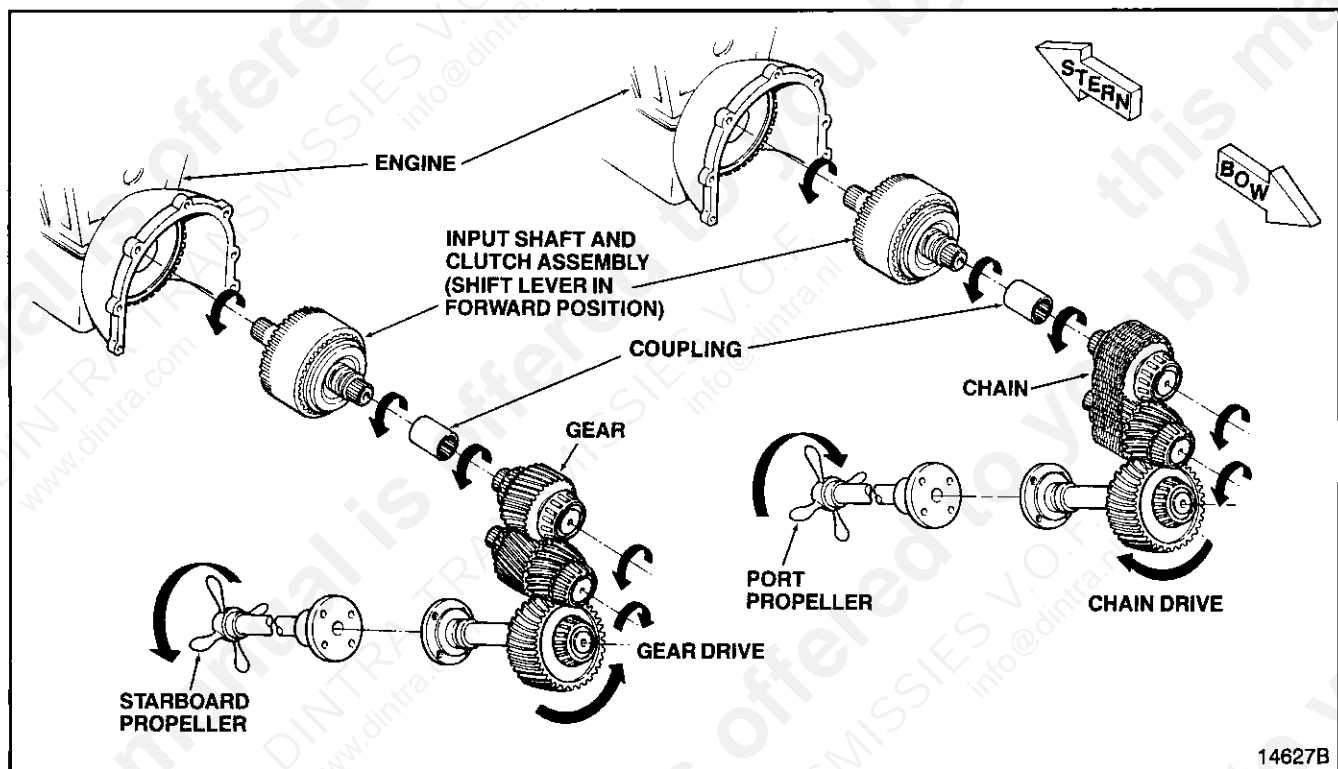

Figure 2. Direction of Rotation for Typical Installation
B. DIRECTION OF ROTATION (See Figure 2).